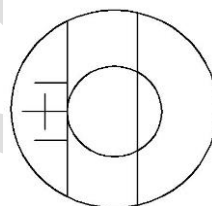

Fig.7-4
8.5 Rotate left drum, and make the left line with left edge indentation tangent (Fig 7-4).